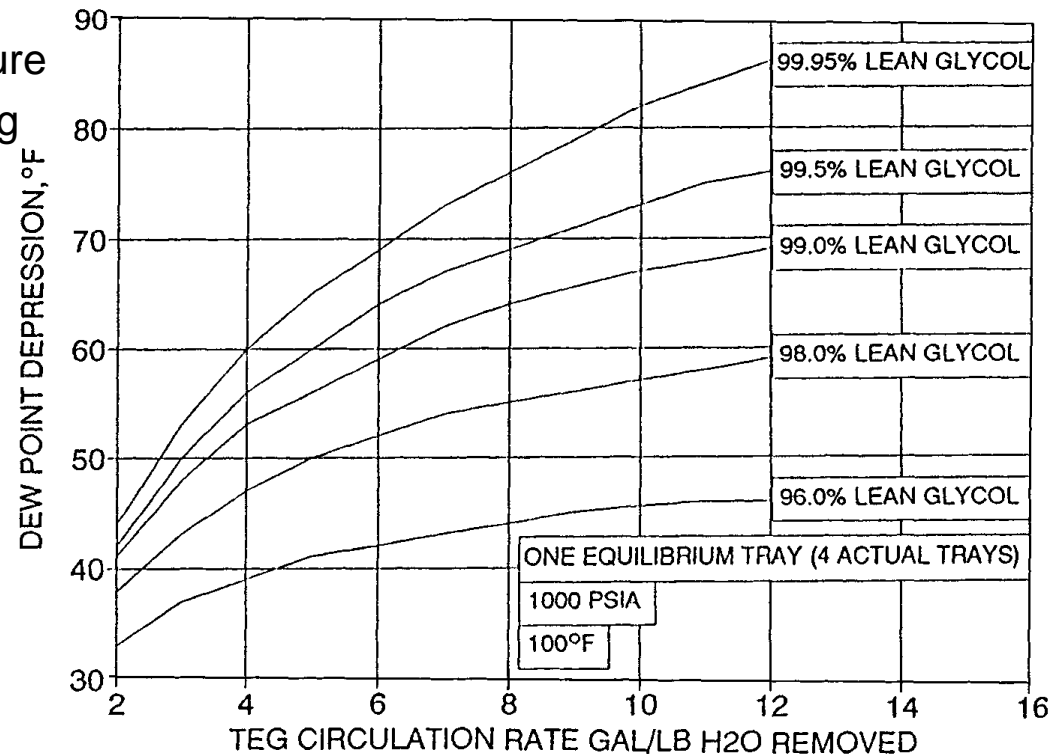

Figure 8-10. Increasing glycol concentration has a greater effect on dew-point depression than increasing the circulation rate.
- Figure 8-10 shows that increasing the lean glycol concentration can have a much greater effect on dew-point depression than increasing the circulation rate.